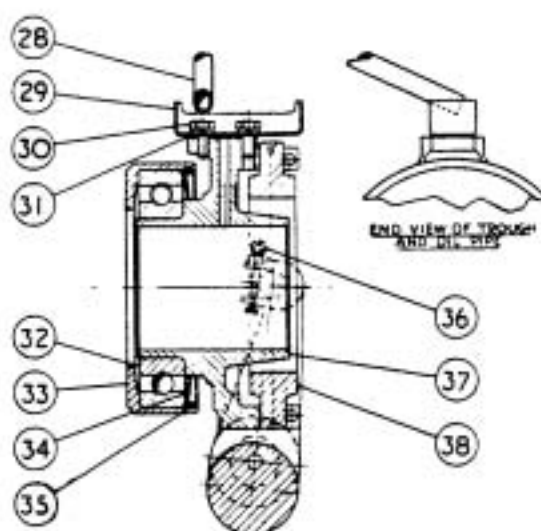

Fig.5. Section through clutch release bearing and trunnion.
3. Over zealous application of the foot-operated chassis oil pump or a faulty oil restrictor (Type ZEO), allowing too much oil to reach the clutch release bearing (32 Fig.5) eventually working its way along the splines on to the driven plate.
The above will probably allow too much oil to reach the clutch release bearing (32 Fig.5) and eventually find its way on the rear facing of the driven plate assembly. The chassis oil pump should only be operated in accordance with the instructions given in the Owners Handbook i.e. "Depress
If the clutch has been removed for the purpose of fitting a new driven plate assembly, then prior to refitting the gearbox to the clutch casing, ascertain that the oil feed pipe (28 Fig.5) to the oil trough of the clutch trunnion is correctly positioned above the trough. The end of the pipe should be approximately over the front setscrew (i.e. the one nearer to the flywheel) retaining the trough to the trunnion when the clutch release bearing housing (33) is in contact with the adjusting screws of the three clutch release levers. Check that the oil feed hole from trough to the trunnion is clear. With sufficient oil in the foot-operated oil pump, depress the pedal once and count the number of oil drops delivered to the trough of the trunnion.